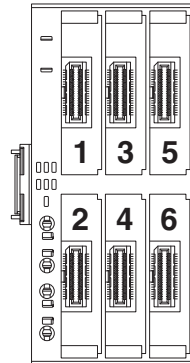

Figure 11-11 Slot numbering (example AXL F BP SE6)
- The slots are numbered as shown in Figure 11-11.